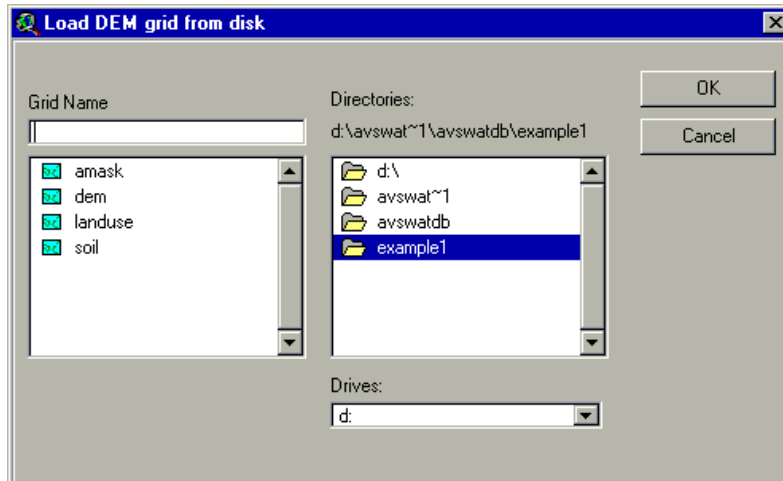

Figure 15.10
- A grid dataset file browser will appear with the User Data directory active (Figure 15.10).